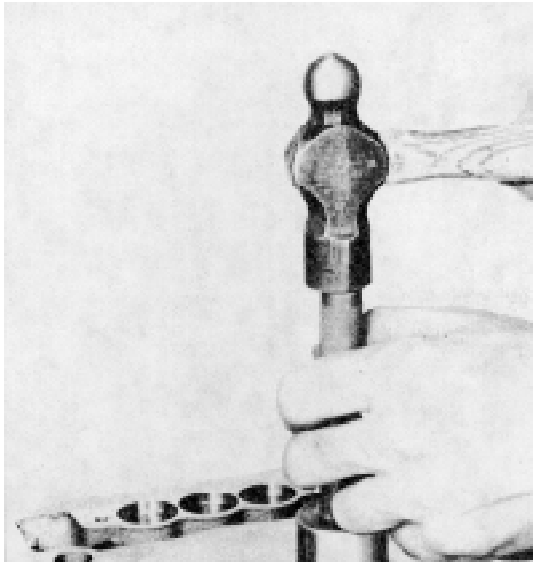

Fig. 13. Installing Valve Seat Insert
6. Drive the insert in place with installer J 1736 (two valve head) or J 6568 (four valve head) as shown in Fig. 13 until it seats solidly in the cylinder head.